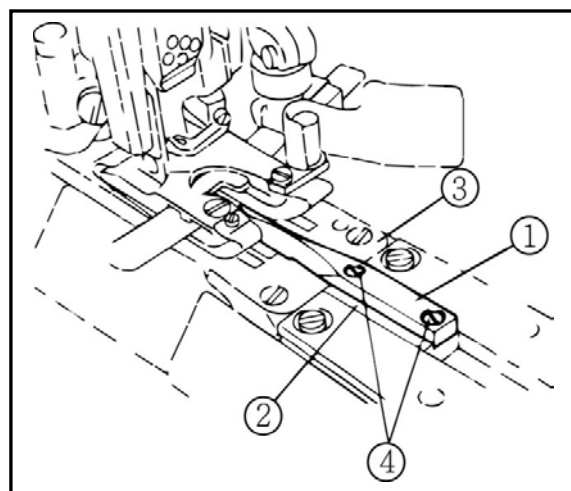

Fig. 35
Set the position where the lap former slide block ② touches and stops in the front of the stitch plate ③. (Fig.35)